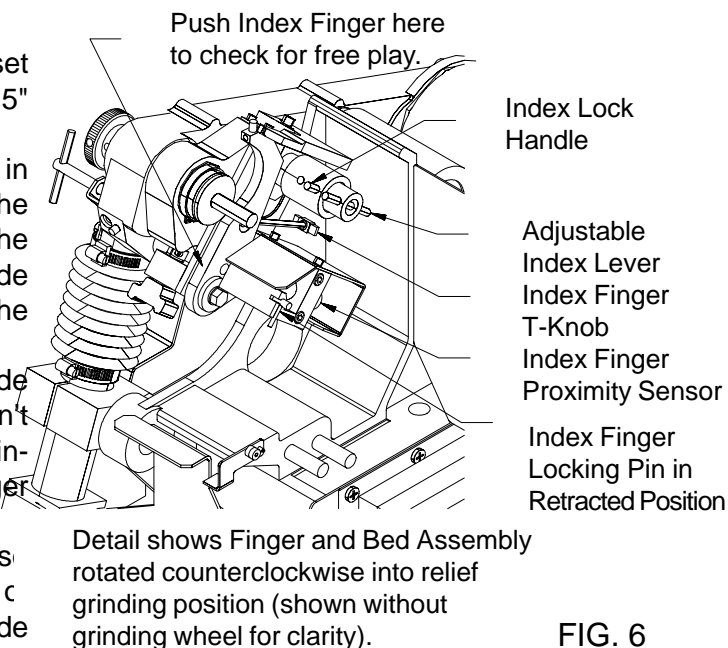

FIG. 6
The Finger and Body Assembly of the grinding head rotates on the Grinding Head Housing to change positions between spin grinding and relief grinding. To change the position of the Finger and Body Assembly you have to pull out the Plunger Pin on the left side of the Grinding Head Housing. See FIG. 5. When you are going to perform spin grinding operations the Finger and Body Assembly must be rotated clockwise (looking at it from the right). This rotates the fingers out of the reel blade path. See FIG. 5. When you are going to perform relief grinding operations the Finger and Body Assembly must be rotated counter clockwise. This rotates the finger into position to touch and control the reel blades. Because the Plunger Pin engages into the Adjustable Relief Adjuster and it sometimes will not fully engage, make certain it is fully engaged. See FIG. 6.
STEP 1: Once you have the Grinding Head positioned with a reel blade resting on the Fixed Relief Finger high point, you want about 1/32" [.8 mm) to 1/16" [1.5 mm] free play of the Index Finger behind the reel blade. The Index Finger is spring loaded to the up position. To check free play, push down on the Index Finger. See FIG. 6. To make this adjustment you have to first turn the Index Lock Handle counter clockwise to unlock the adjustable Index Lever. See FIG. 6. If there is no free play of the Index Finger you want to rotate the Adjustable Index Lever clockwise. If there is more than 1/16" [1.5 mm] free play you want to rotate the Adjustable Index Lever counter clockwise. When the Index Finger is in proper position rotate the Index Lock Handle clockwise to lock the Adjustable Index Lever.
If the Index Finger has problems catching the next blade turn the Index Finger T-knob counterclockwise. If there isn't enough clearance between the back side of the Index Finger and the front side of the reel blade turn the Index Finger T-knob clockwise. See FIG. 6.